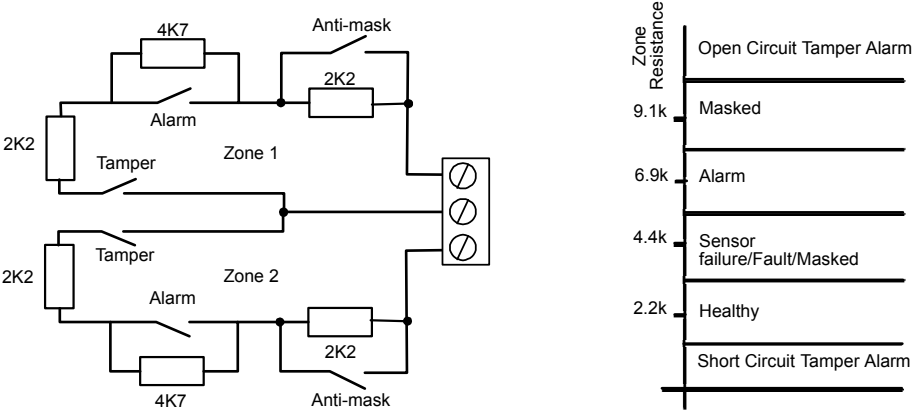

Figure 14. Wiring Zones that use Anti-Masking
- Method 2: Applying a specified resistance value to a zone. The zone must be wired as shown in Figure 14.